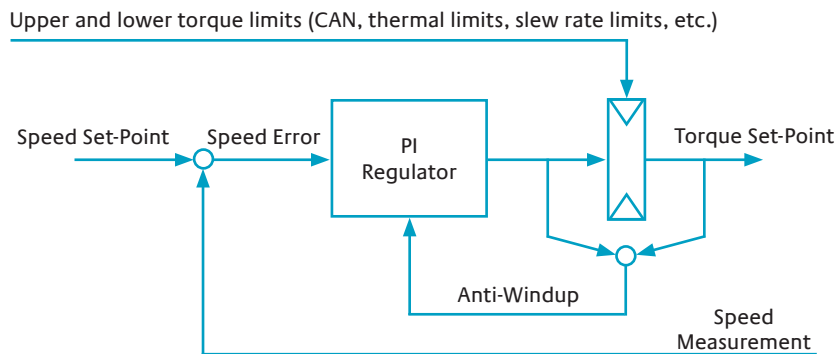

Figure 2: CAN Speed Regulator
A block diagram of the speed regulator is shown in Figure 2. It consists of a proportional-integral (PI) controller with output saturation and anti-windup. This structure lends itself well for operating the drive in either a speed-controlled or torque-controlled mode. Furthermore, the anti-windup feature assures smooth transition from one mode to the other.